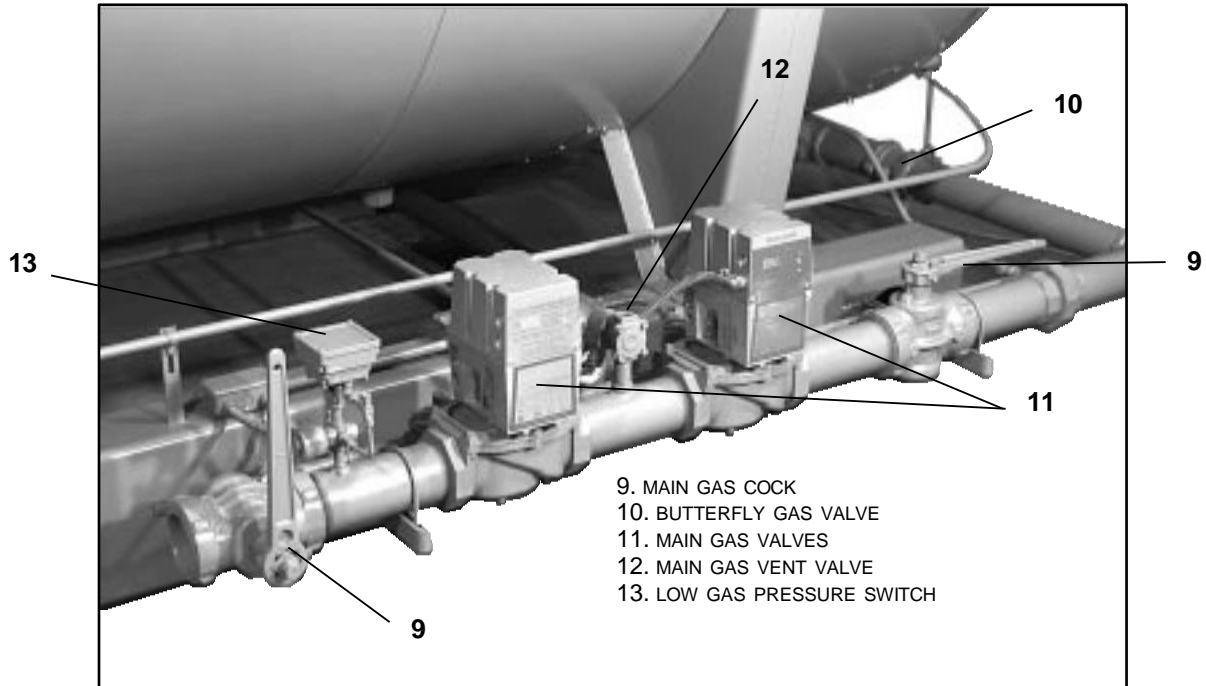

Figure: 2-14 Gas Train
9. Main Gas Cock (Figure 2-14, 15): For manually opening and closing the main fuel gas supply downstream of the main gas line pressure regulator. A second shutoff cock, downstream of the main gas valve(s), is installed to provide a means of shutting off the gas line whenever a test is made for leakage across the main gas valve.
10. Butterfly Gas Valve (Figure 2-14, 15): The pivoted disc in the valve is actuated by connecting linkage from the gas modulating cam to regulate the rate of gas flow to the burner.
11. Main Gas Valves (Figure 2-14, 15): Electrically actuated shutoff valves that open simultaneously to admit gas to the burner. The downstream valve is equipped with a “proof of closure” switch that is connected into the pre-ignition interlock circuit.
12. Main Gas Vent Valve (Figure 2-14, 15): A normally open solenoid valve installed between the two main gas valves to vent gas to the atmosphere should any be present in the main gas line when the gas valves are deenergized. The vent valve closes when the gas valves are energized.
13. Low Gas Pressure Switch (Figure 2-14, 15): A pressure-actuated switch that is closed whenever main gas line pressure is above a preselected pressure. Should the pressure drop below the setting, the switch contacts open a circuit causing the main gas valve(s) to close, or prevent the burner from starting. The switch is usually equipped with a device that must be manually reset after being tripped.